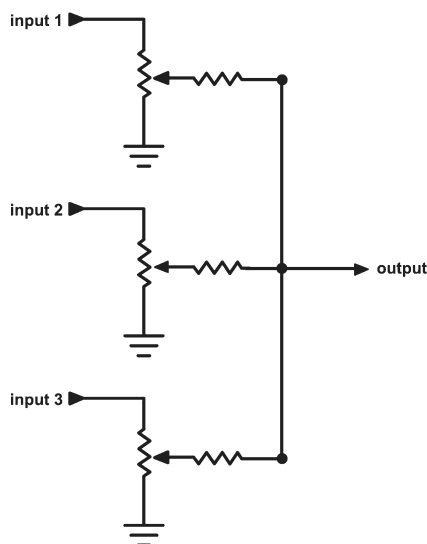
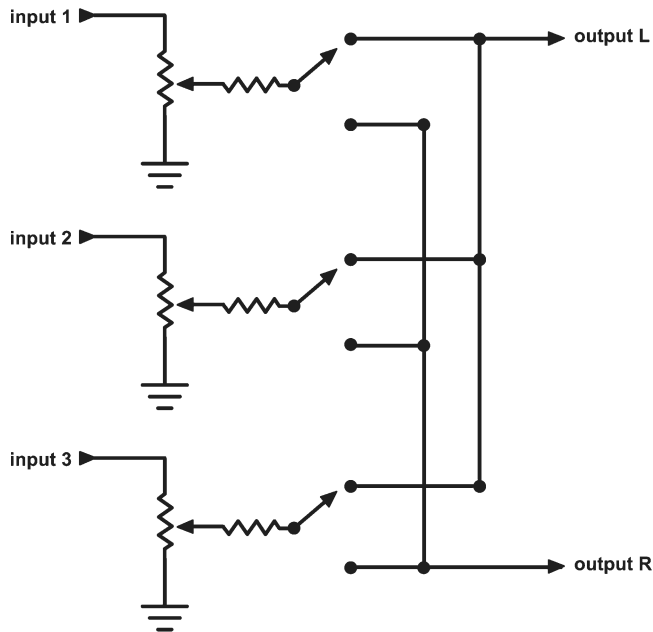

Figure 27.1 Basic three-input mono mixer.
Figure 27.3 Basic three-input stereo mixer.
Now that your collection of noisemakers is growing, a simple mixer might prove useful. Here are some completely *passive* circuit designs—they use no batteries, no chips or other active components; they need no on/off switches or circuit boards. Even if you already have a “real” mixer, this is a very convenient way to expand its inputs. The basic schematic is shown below in figure 27.1.
You can expand the circuit in figure 27.1 to accommodate any number of inputs, simply by adding another jack, pot, and resistor for each new input signal. By adding some switches and another output jack you can make a stereo version of the same circuit (figure 27.3). Each summing resistor is connected to the switch's Common terminal (C); the Normally Open terminal (NO) is connected to one output jack, and the Normally Closed (NC) to the other. Throwing the switch swaps the signal between the left to right outputs. It's a kind of binary panner, alternating between hard-left and hard-right, with no gradations in between—crude, but much simpler than adding a proper pan-pot.
You will notice that the design is similar to that of our basic mixer in figure 27.1, but here each input signal is connected to three pots instead of one, and we have three output